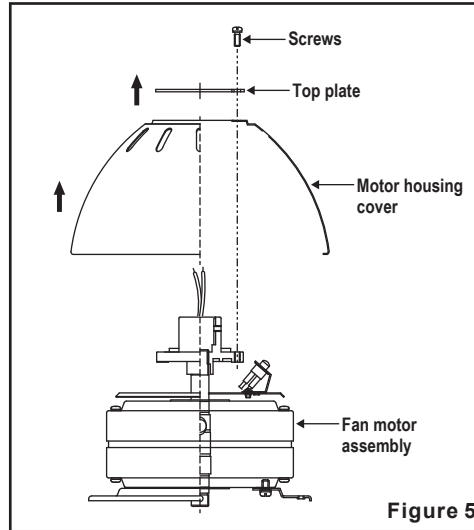

Figure 5
Step 1. Remove the top plate screws on top of the fan motor assembly to separate the top plate and the motor housing cover. (Fig. 5)